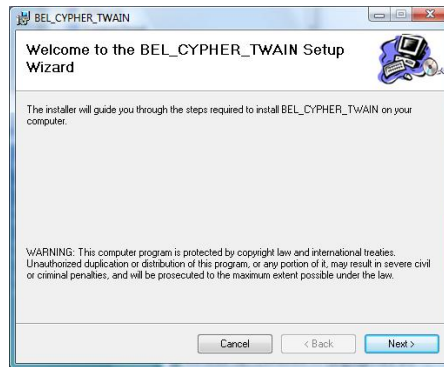

Fig 4 Bel-Cypher TWAIN Setup Wizard
- 6) After the installation was completed, the dialogue such like Fig 4 Bel-Cypher TWAIN Setup Wizard starts. Click "Next"